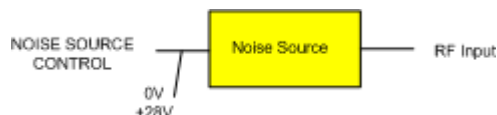

Fig. 4-1: Preparation for calibration
1. Connect the noise source to the RF input of the analyzer (see figure 4-1).